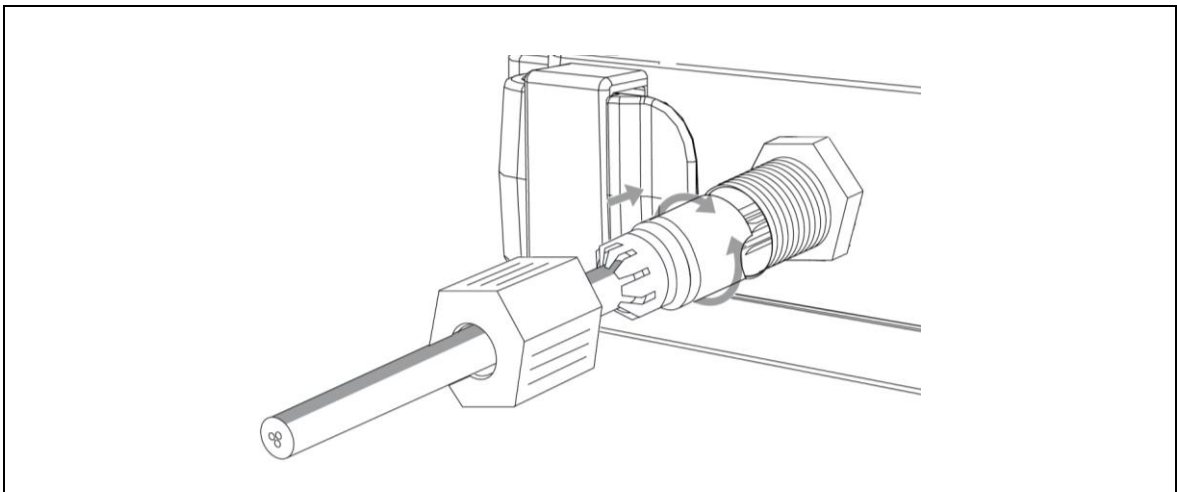

Figure 14 Assembling the QUICKON® fast-connect plug (4)
- 7 Turn the cable with the splice ring until the coding notch fits exactly into the corresponding guide positions (refer to Figure 14).